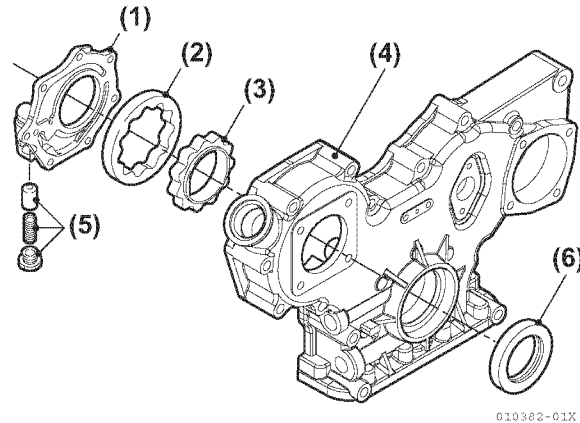

Figure 5-145
22. Mount the gear case cover (**Figure 5-145**):